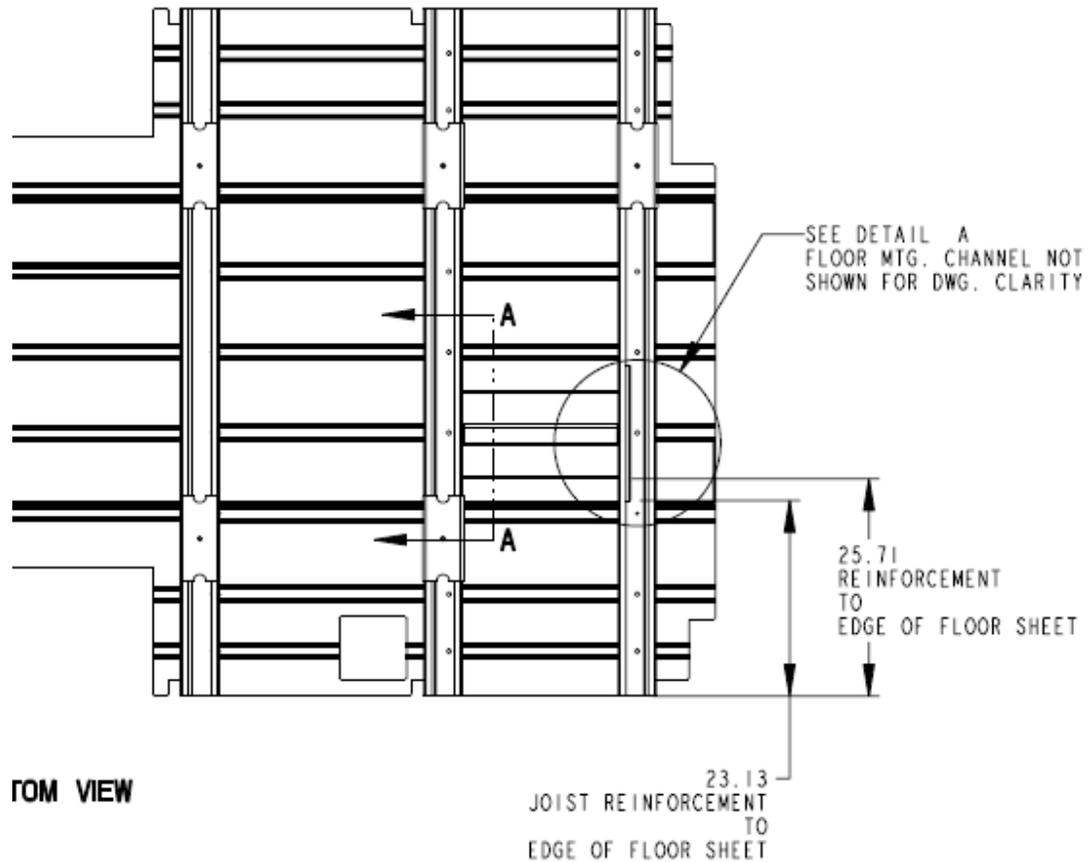
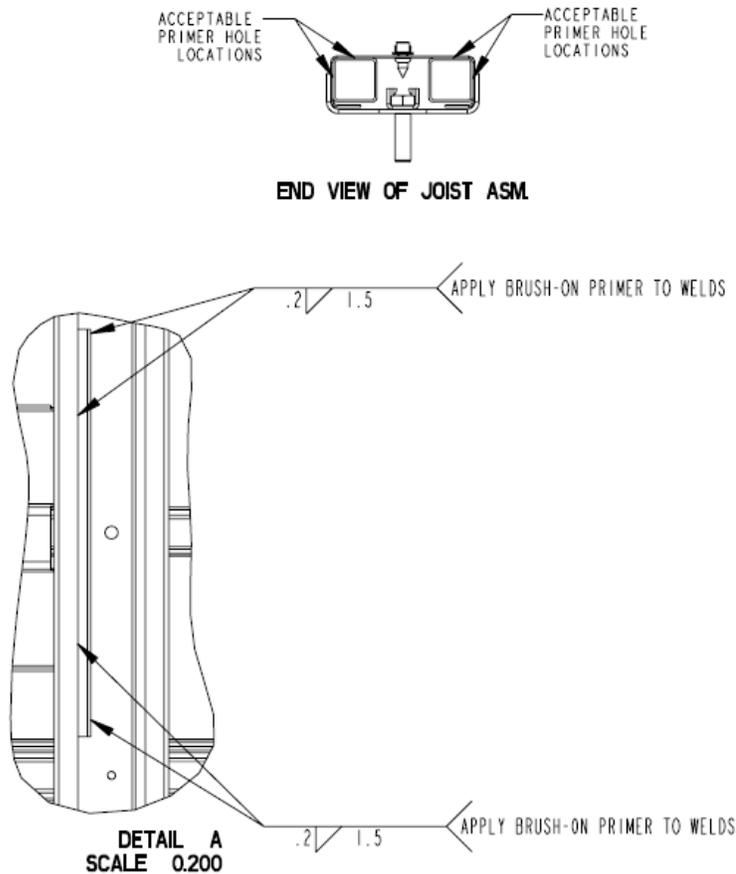

Figure 3
Figure 4
- 13) Weld joist reinforcement channel (TBB 183396) into location shown in **Figure 3**. (Use the measurement for joist reinforcement.) Detail shown in **Figure 4**.
- 15) To mount barrier reinforcement plate (TBB 182254), it will involve sliding the plate from the outside over the frame rail into location shown in **Figure 3**. **Figure 5** shows how to slide the plate over the frame rail. Once the plate is in place and making sure all harnesses are moved out of the way, weld plate as